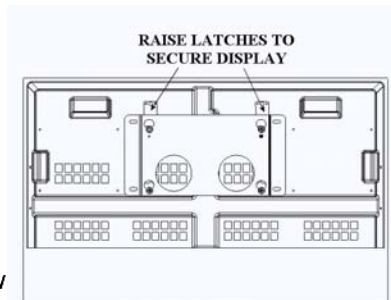

Figure 6
5. With the aid of another person, lift the display up to the mount, align the mounting buttons on the display with the teardrop slots in the mount, and set the display into place (see figure 6).